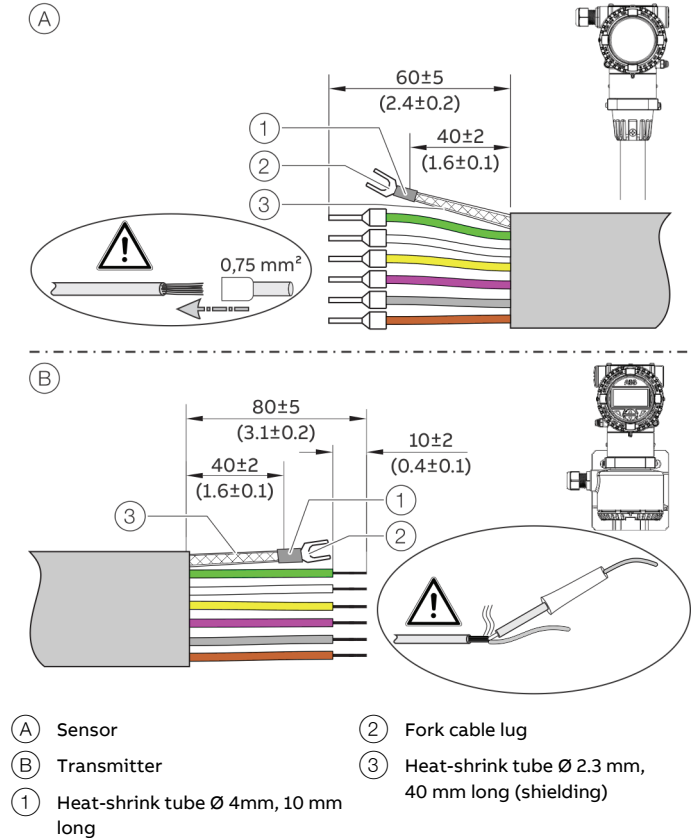

Figure 49: Signal cable, dimensions in mm (in)
The signal cable can also be cut to any length. Then the cable ends must be prepared as shown in Figure 49.
3. Produce the signal cable in accordance with the specification (see **Figure 49**).